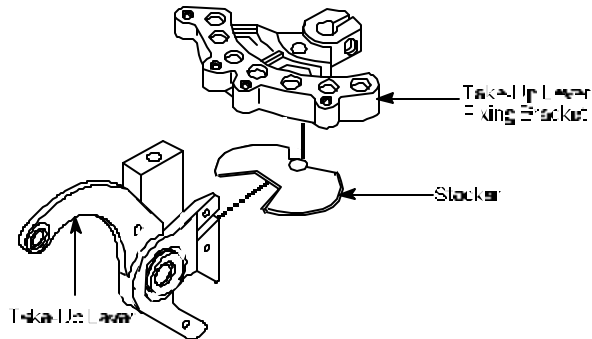

Figure 7
13. **Replace** and **Position** Take-Up Lever to Take-Up Lever Stocker. See *Figure 7*.